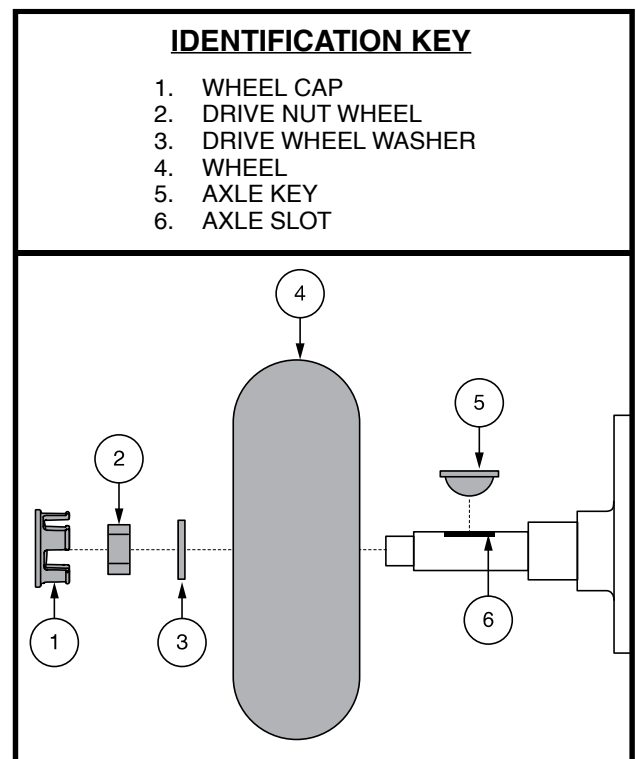

Figure 29. Wheel Removal
3. Remove the wheel cap, drive wheel nut and washer from the axle. See figure 29.
4. Remove the drive wheel nut and washer from the axle. **See figure 29.**
9. Slide the wheel back onto the axle. Make sure that the axle key is in the axle slot. **See figure 29.**